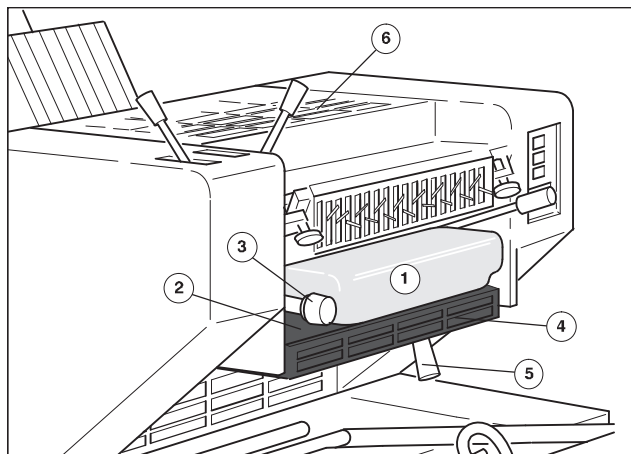

Fig. 15 Dampening solution container and control knob for dampening solution metering
1. Remove the dampening solution container (Fig. 15/1).
2. Set the control knob for the dampening solution metering (Fig. 15/3) to position "5".
3. Fold up the guard under the dampening solution container (Fig. 15/2).
4. Fold down the guard in front of the dampening solution pan (Fig. 15/4).
6. Move the lever (Fig. 15/5) upwards, in order to connect dampening system 2 with inking unit 2.
2. Spray washing fluid on the inking rollers through the slot in the guard above the inking unit (Fig. 15/6). For a better washup result, first spray rollers with washing fluid on one side, then after a while wash the other side.
3. After ending the washup procedure, swivel the lever (Fig. 15/5) downwards and thereby separate the dampening system from the inking unit.